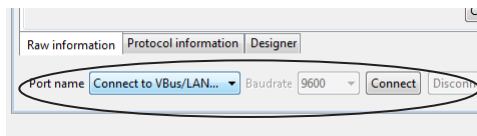

Fig. 2
- At the bottom of the page, in the drop-down menu **Port name**, select **Connect to VBus/LAN** (Fig. 2)